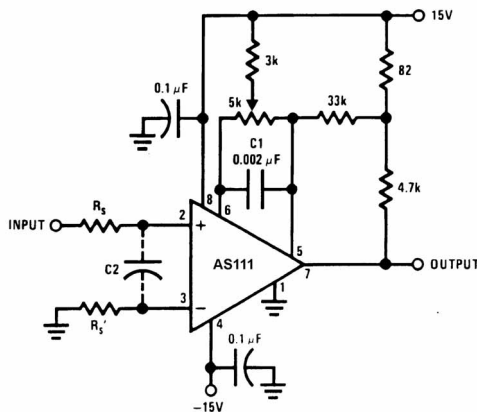

FIGURE 1. Improved Positive Feedback
However, when the input signal is a voltage ramp or a slow sine wave, or if the signal source impedance is high (1  $\mu$ W to 100  $\mu$ W), the comparator may burst into oscillation near the crossing-point. This is due to the high gain and wide bandwidth of comparators like the AS111. To avoid oscillation or instability in such a usage, several precautions are recommended, as shown in Figure 1 below.
should be shorted together. If they are connected to a trim-pot, a 0.01  $\mu$ F capacitor C1 between pins 5 and 6 will minimize the susceptibility to AC coupling. A smaller capacitor is used if pin 5 is used for positive feedback as in Figure 1.
7. When both inputs of the AS111 are connected to active signals, or if a high-impedance signal is driving the positive input of the AS111 so that positive feedback would be disruptive, the circuit of Figure 1 is ideal. The positive feedback is to pin 5 (one of the offset adjustment pins). It is sufficient to cause 1 to 2 mV hysteresis and sharp transitions with input triangle waves from a few Hz to hundreds of kHz. The positive-feedback signal across the  $82\Omega$  resistor swings  $240\text{ mV}$  below the positive supply. This signal is centered around the nominal voltage at pin 5, so this feedback does not add to the  $V_{OS}$  of the comparator. As much as  $8\text{ mV}$  of  $V_{OS}$  can be trimmed out, using the  $5\text{ k}\Omega$  pot and  $3\text{ k}\Omega$  resistor as shown.